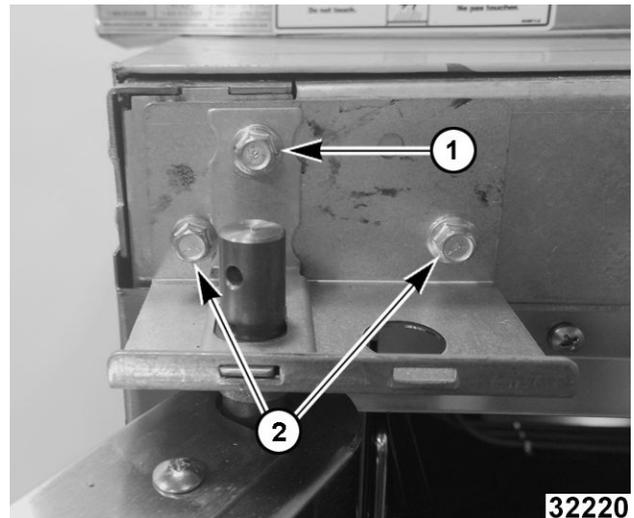

Fig. 40
3. While supporting door, remove hex bolts holding upper bearing retainer (1, Fig. 40) and upper shaft bracket (2, Fig. 40).